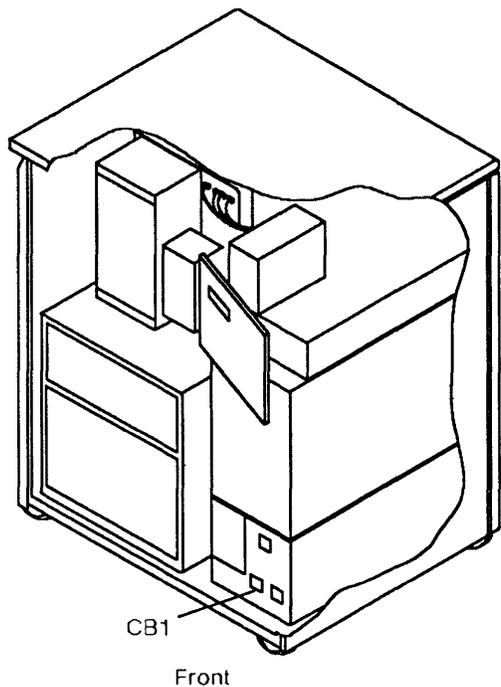

Figure 4-106. CB1 Location
4. Switch CB1 OFF. Refer to Figure 4-106.